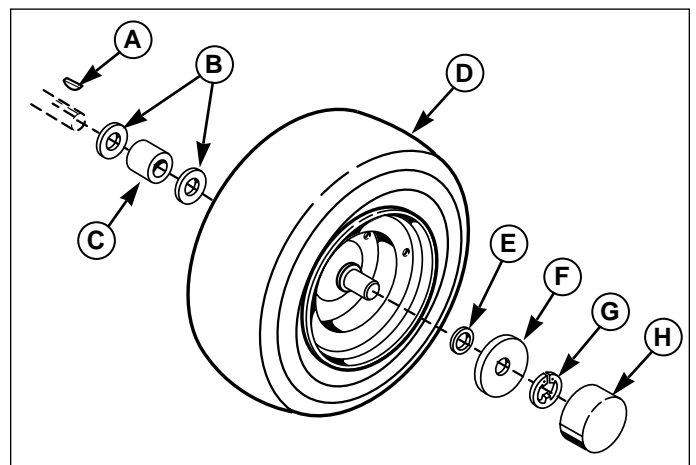

Figure 22. Lubricate the Rear Axle Shafts
5. Remove the plastic hub cap (H, Figure 22).
6. Remove e-ring (G) using a screwdriver.
7. Remove the hub cap retainer (F), small washer (E), and wheel assembly (D).